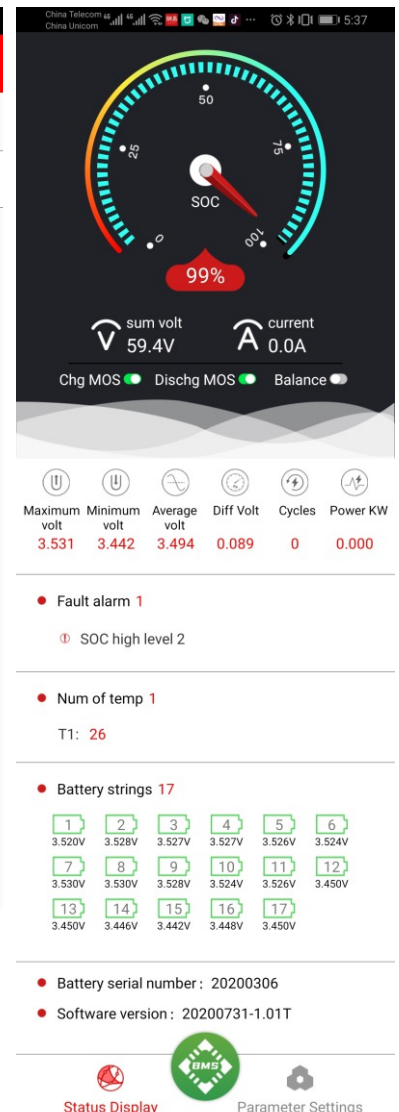

Figure 7.
- You can see the real-time voltage, current, the percentage of battery capacity remaining, the MOS state of charging and discharging, whether the balance is on, etc. (see Figure 7. )